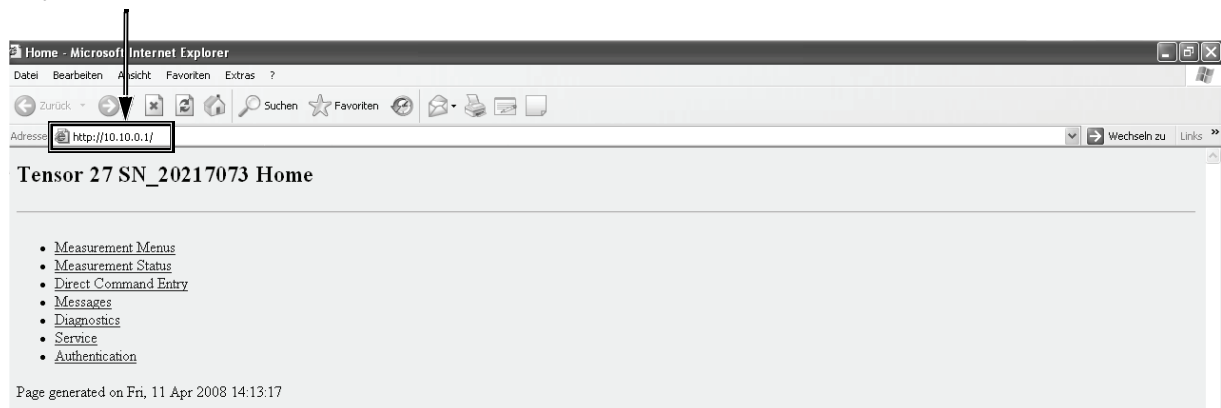

Figure 7: Microsoft Internet Explorer displaying the Homepage of the connected TENSOR
- 6 Enter the spectrometer IP address in the browser entry field (See fig. 7.) and press the enter key.